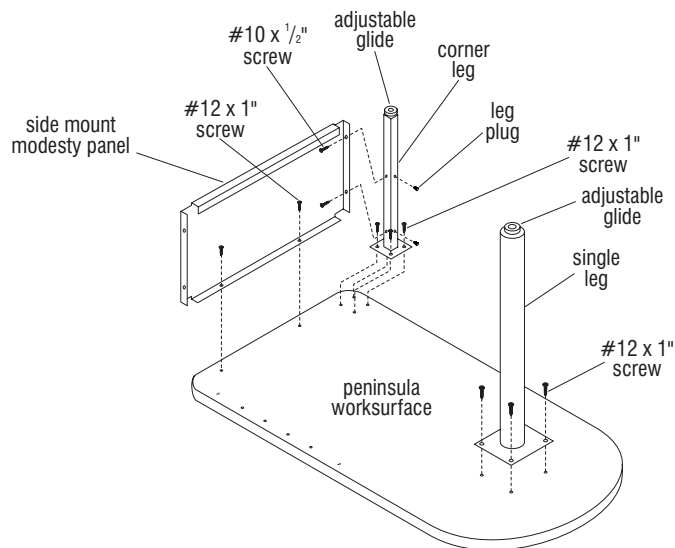

Figure 1
1. Set the peninsula worksurface face down onto a soft protective surface. Attach the single leg to the peninsula worksurface with four #12 x 1" screws (Figure 1).
2. Align the corner leg with the pre-drilled holes in the peninsula worksurface at the corner opposite from where the peninsula will attach the adjoining rectangular worksurface. Be sure that the modesty panel mounting holes on the corner leg face inward for mounting of the modesty panel next (Figure 1).
3. Position the side-mount modesty panel under the peninsula and align mounting holes to holes in corner leg. Secure modesty panel to corner leg with two #10 x 1/2" screws. Attach the modesty panel to the peninsula with two #12 x 1" screws (Figure 1).
4. Install a leg plug into each of the two exposed holes in the corner leg as illustrated (Figure 1).